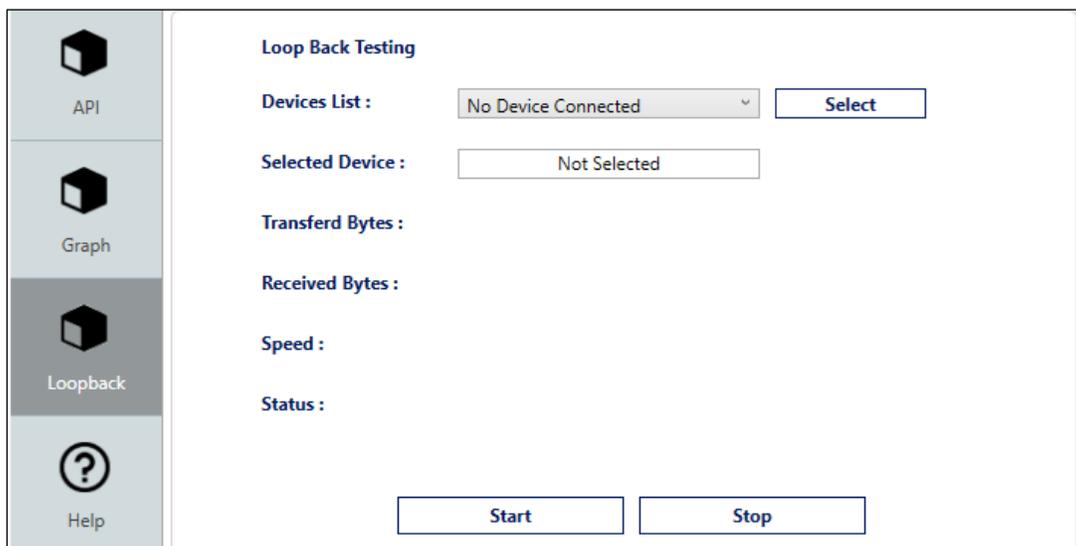

Figure 56. Loopback Testing Tab
1. Select the **Loopback** tab on the left of the GRL-V-UP API software to open the “Loop Back Testing” screen as shown in Figure 56 below.